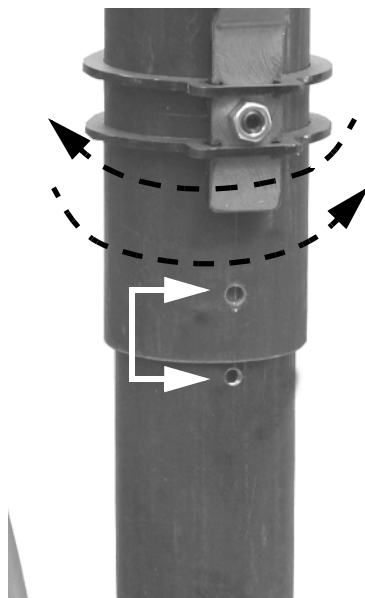

Fig. 15
- 2 Lower the terminal part of the combustion head, by moving it with a slight circular movement, until the holes will match (Fig. 15) and tight the screw shown in Fig. 16.